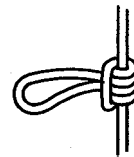

fig. 5
- Step 4 Tighten the knot around the line as shown in fig. 5.